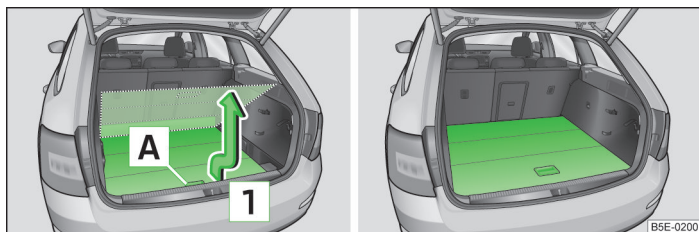

Fig. 96 Set variable loading floor to the upper position / variable loading floor in the upper position
- Grasp the rear of the variable loading floor by the handle **A** » Fig. 96.